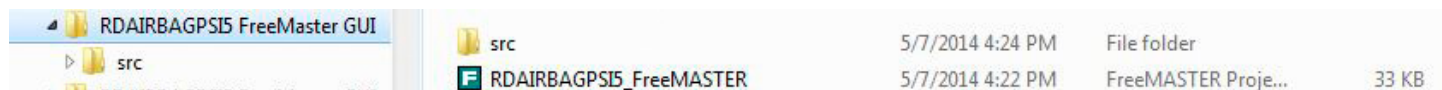

Figure 13. ARP Graphical User Interface
8. Launch the ARP Graphical User Interface by double clicking on the RDAIRBAGPSI5_FreeMASTER application file. The ARP GUI should appear as in Figure 13.